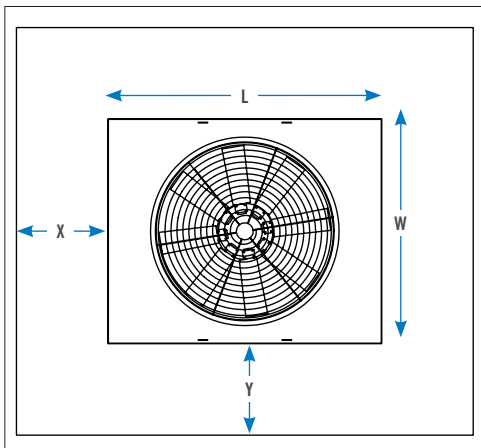
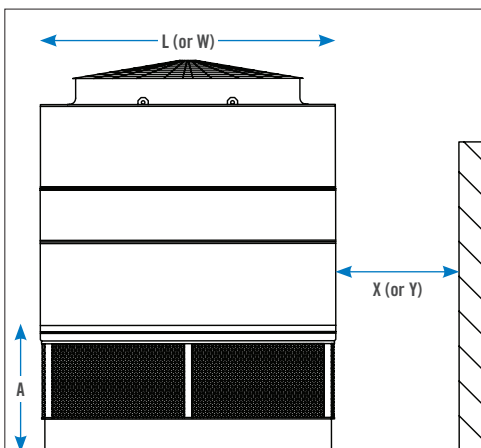

Figure 2. Plan View of PT2 or PC2 Unit Adjacent to One or More Walls
Figure 3. Section View of a PT2 or PC2 Unit Adjacent to Wall
Should it be necessary to install a unit adjacent to a building or wall(s), provide at least distance “X” or “Y” between the air intake and the wall, as illustrated in **Figure 2** and **Figure 3**.
2. For a plan view of a one cell PT2 arrangement and a plan view of a PC2-X-0406-X, PC2-X-0412-X, PC2-X-7409-X, PC2-X-1212-X, and PC2-X-1218-X refer to **Figure 2** on **Page 3**. For plan views of all other configurations, see **Page 4**.